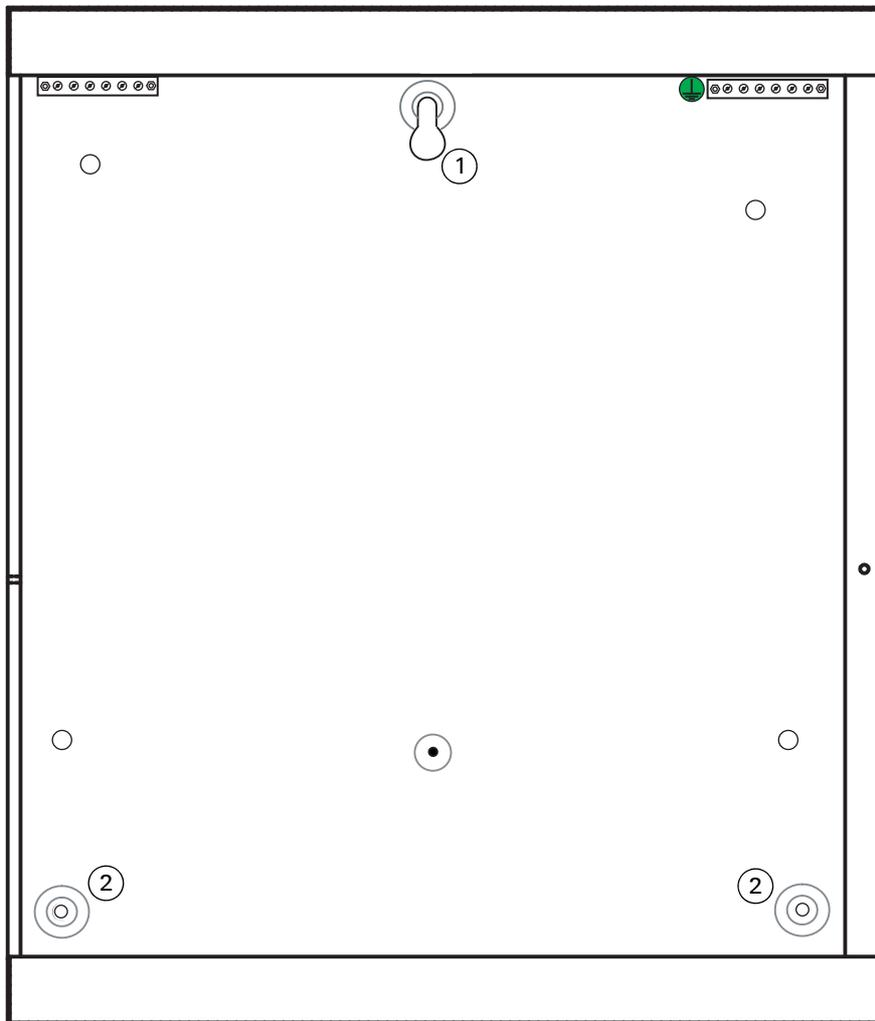

Fig. 12: FireClass 64-2, 64-4, 240-2 and 240-4
- 2 For the upper (centre) mounting hole, mark on the wall the drill hole position. This mounting hole is item 1 in Fig 12 on page 22. Now drill and plug this hole.
- 3 Insert a screw to suspend the housing from the upper hole. The housing may feature a "keyhole", as shown in Fig 12. This allows you to insert the screw into the bare wall, then drop the housing onto the screw (rather than screwing with the housing in position, through the back wall).